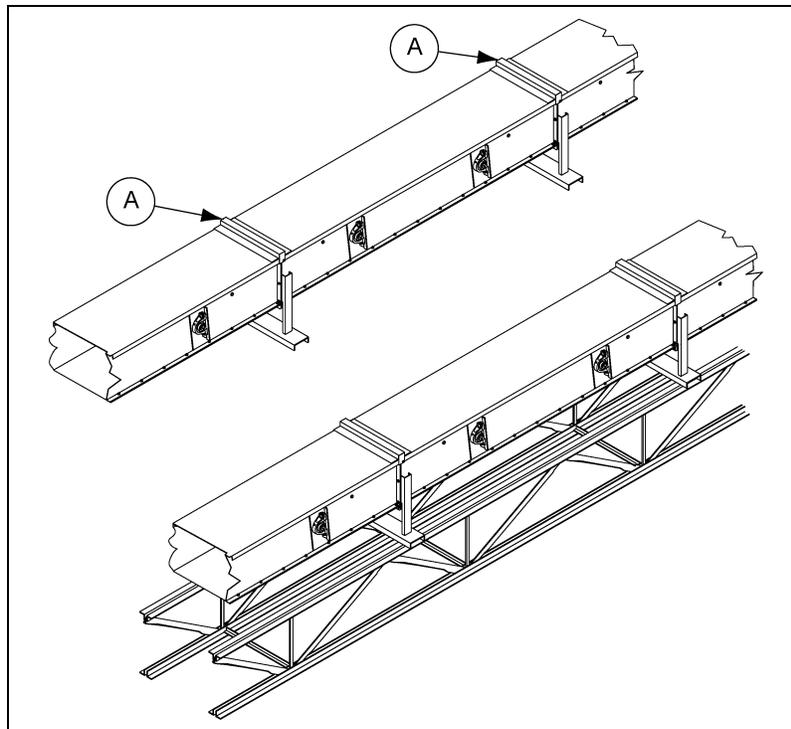

Figure 4A Conveyor Supporting Structures
9. The conveyors are not designed to be self-supporting when erected. Supporting structures are required for horizontal and vertical support. (See Figure 4A on Page 24.)
1. Figure 4A illustrates the general type of acceptable support structure.
2. Conveyor must be supported at each section joint (A). Refer to the certified drawing for location and attachment of the short section.